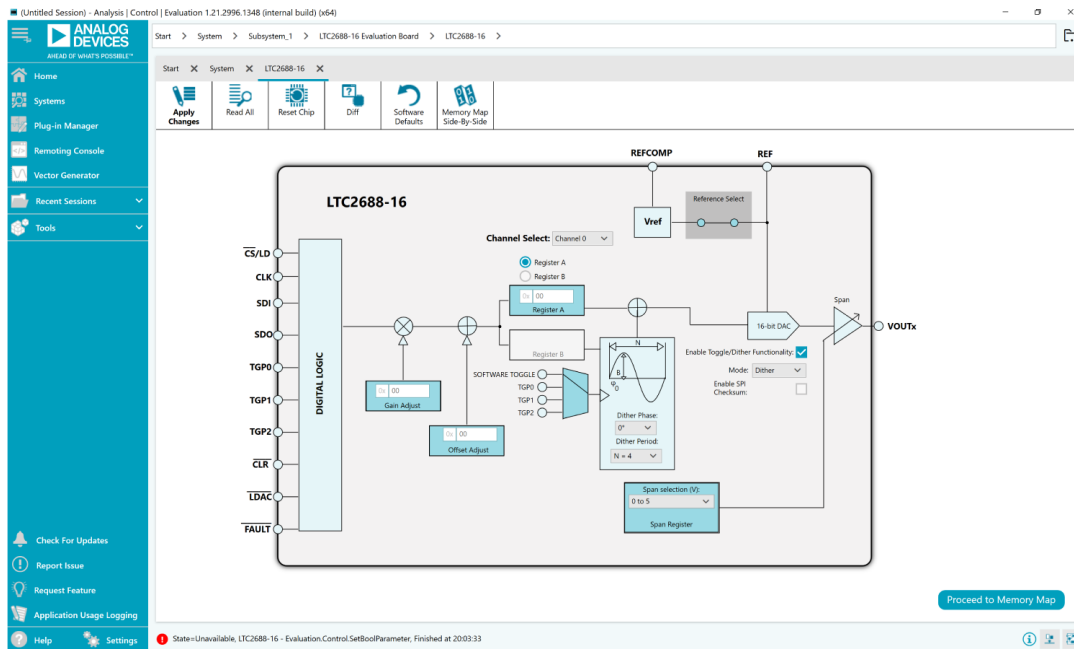

Figure 7. Dither View
**Mode** dropdown box to bring up the dither options (see Figure 7). The default values for the dither phase ( $\omega_0$ ) and period (N) are  $0^\circ$  and  $N = 4$ . The phase and period of the dither can be modified using the dropdown boxes to select from a fixed list of options.